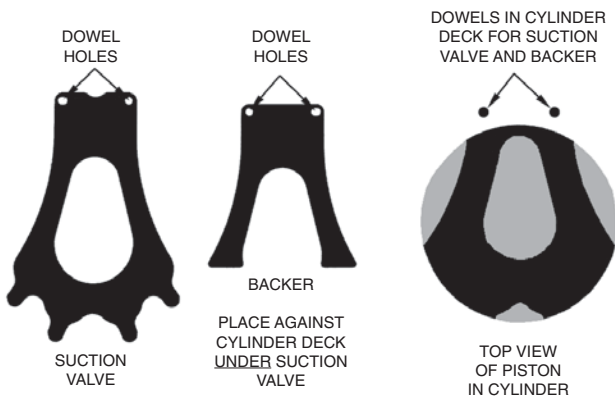

Fig. 5 — Piston, Suction Valve, and Backer Positions (06E)
- b. 06E Compressors: If compressor uses a suction valve and a backer valve (looks like a 1/2 a suction valve), backer valve must be installed before installing full size suction valve (Fig. 5).